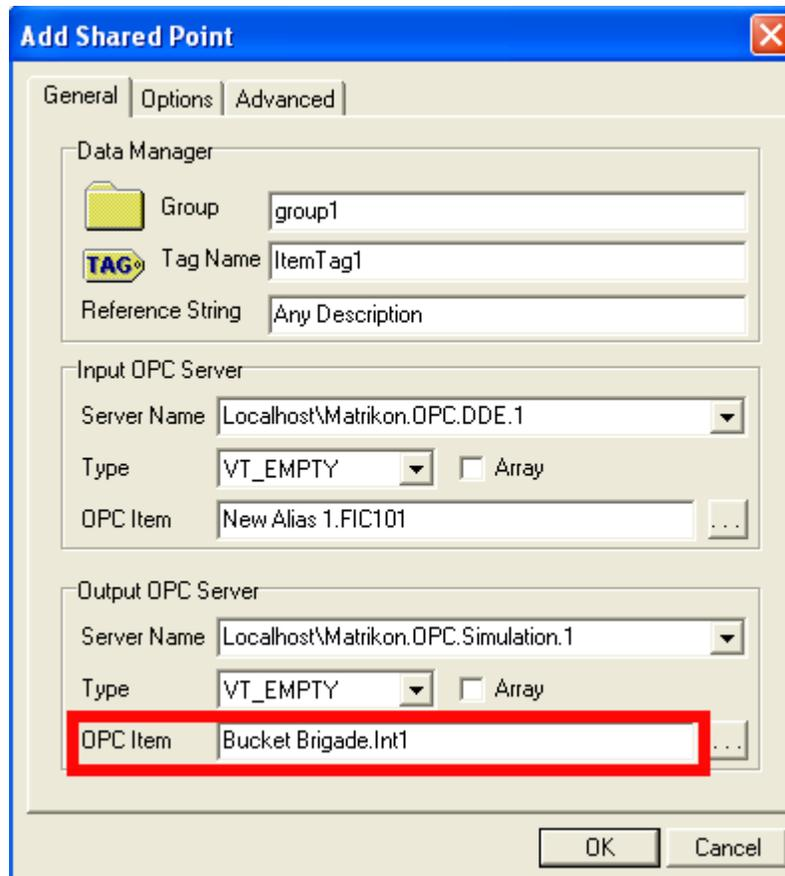

Figure 26 - Completed Shared Point Configuration
10. In the **OPC Item** field in the **Output OPC Server** screen section, type the name of a data point that allows both read and write access (e.g., **Bucket Brigade.Int1**) as shown and highlighted in Figure 26.